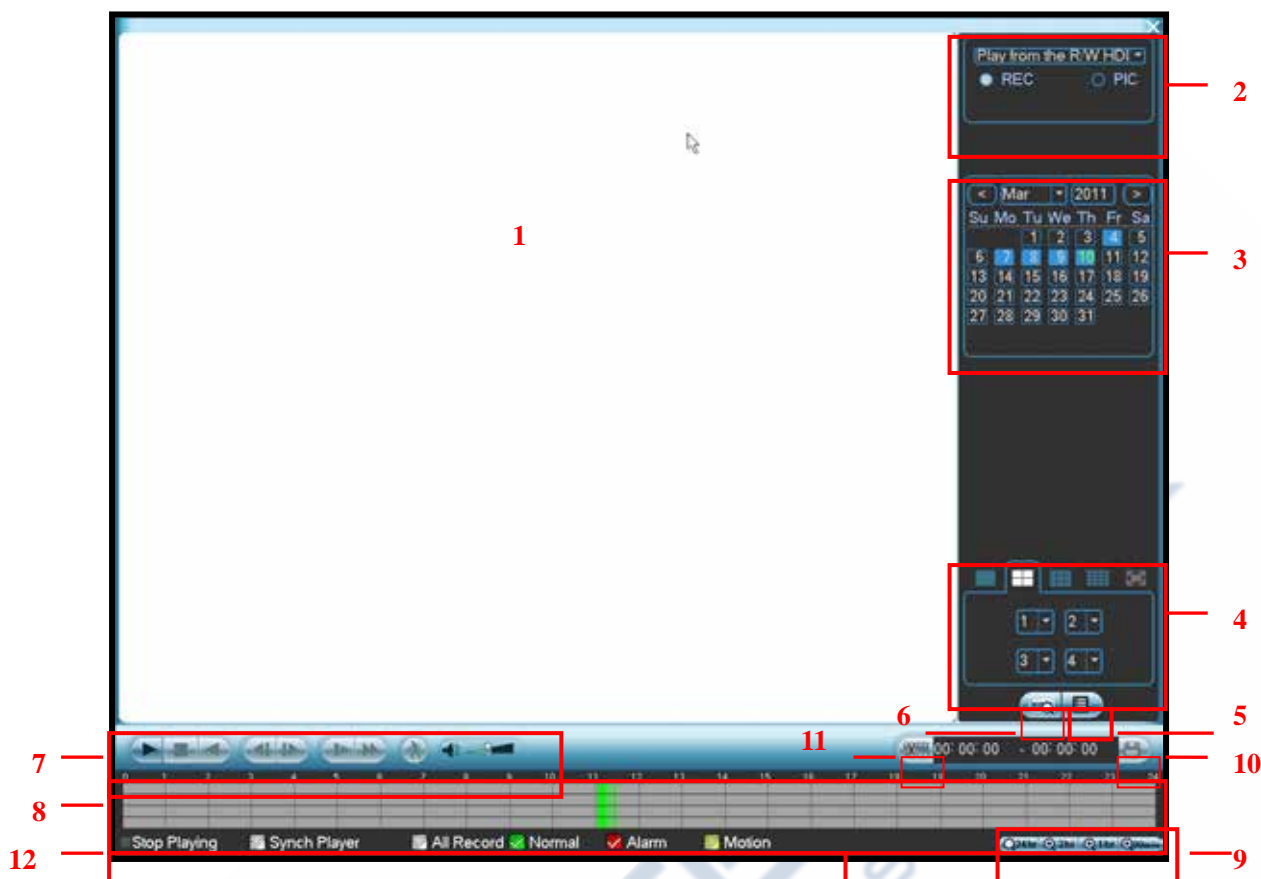

Figure 5-44
From Main menu->Search, or on the preview interface right click mouse, you can go to the following interface. See Figure 5-44.
- From Main menu->Search, or on the preview interface right click mouse, you can go to Figure 5-44.